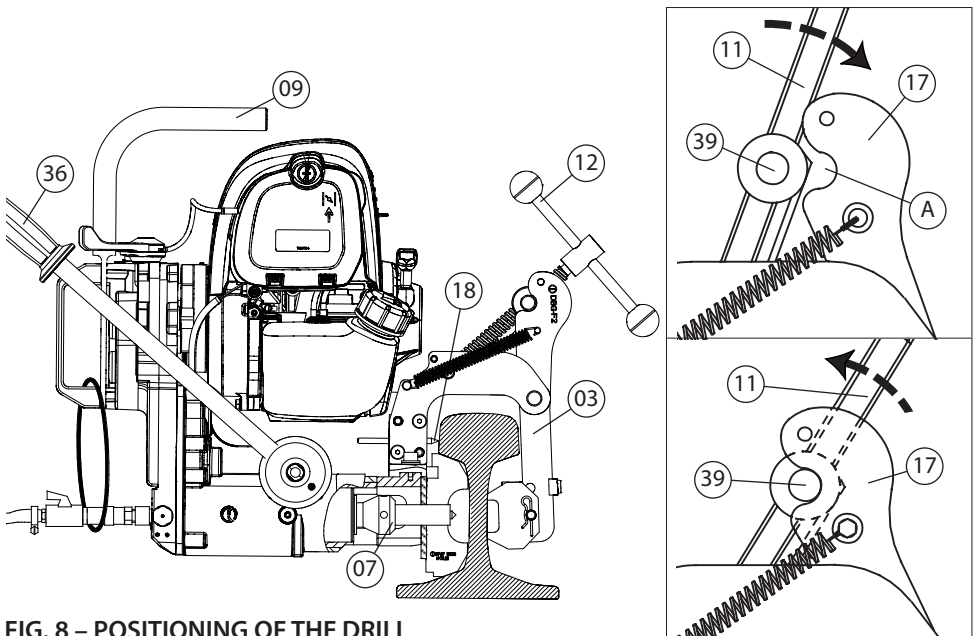

FIG. 8 – POSITIONING OF THE DRILL
6.8) Clamping to the rail web (Ref. to Fig. 8)